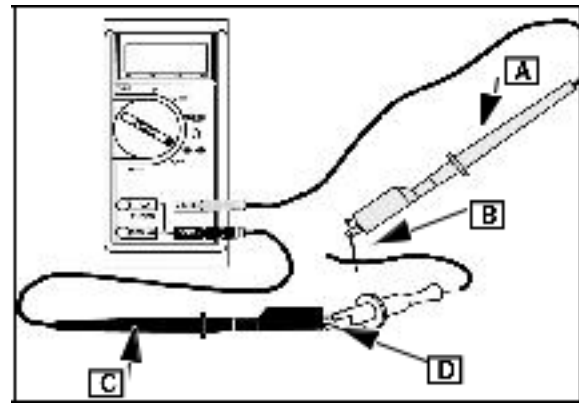

Fig. 15
Attach RED test lead ([A] Fig. 15) clip to point (B) and BLACK test lead (C) clip to point ([D] Fig. 15). It may be necessary to pierce wire with a pin as shown.